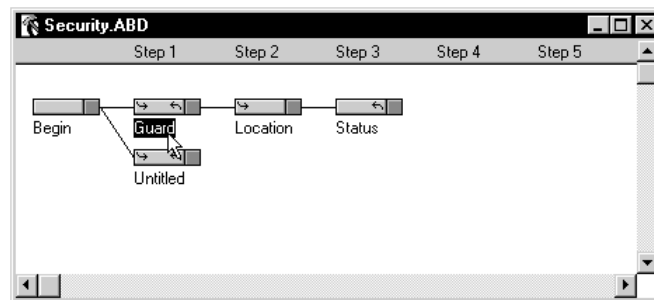

Figure 4-32 “Guard” Handler Selected
5. Click the “Guard” Handler (Figure 4-32).